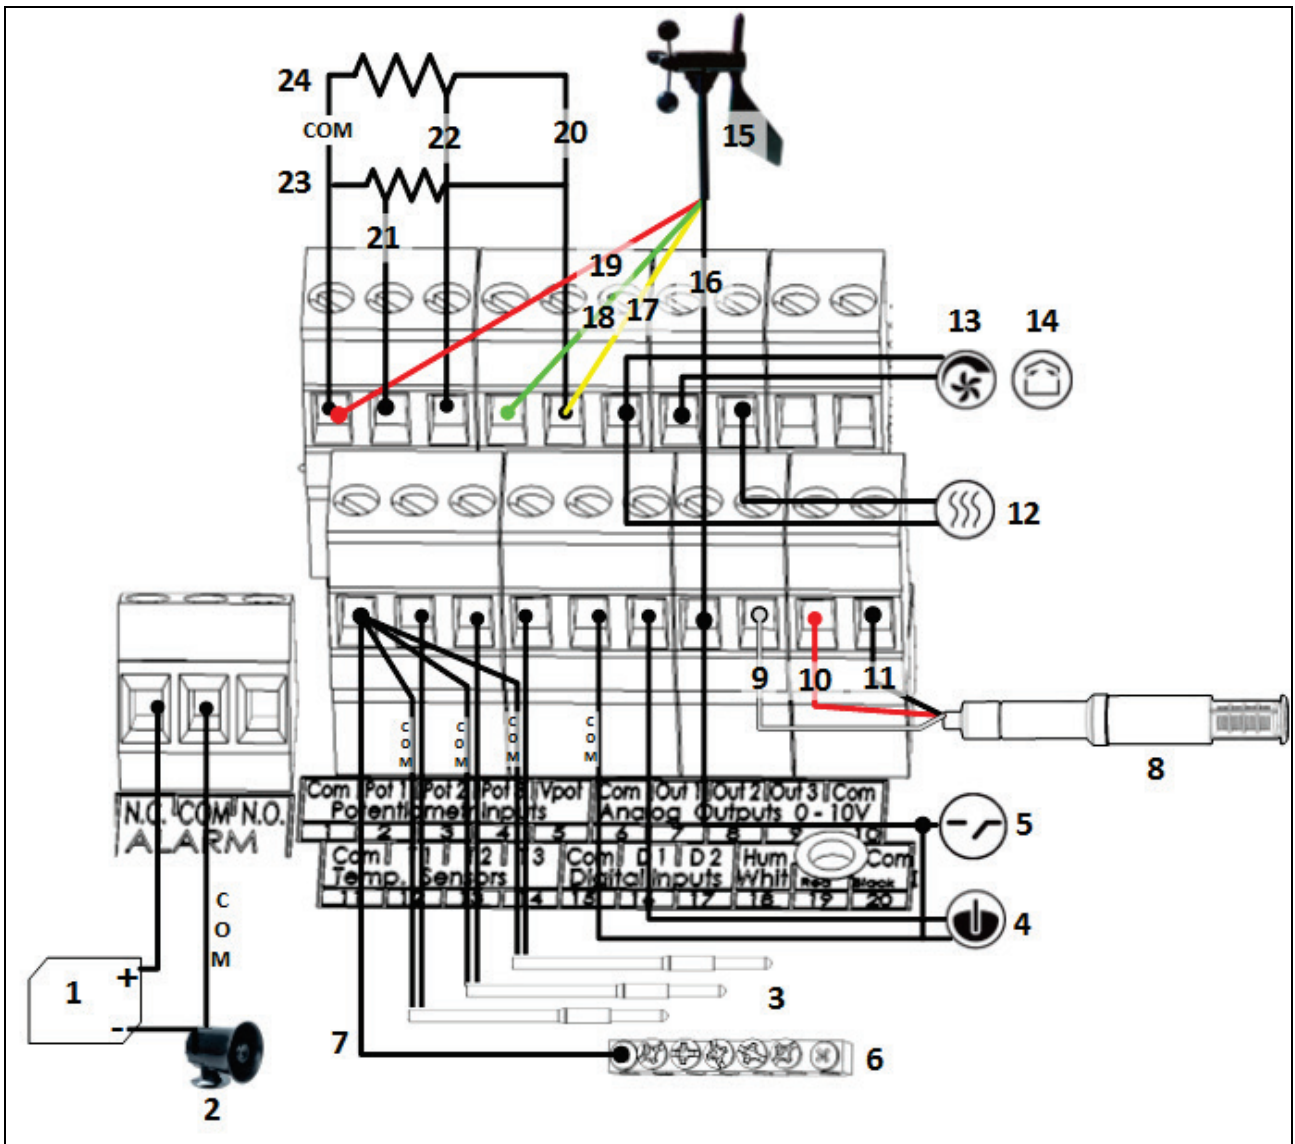

Figure 2: Smart C Wiring Diagram of Low Voltage Section
- Figure 2: Smart C Wiring Diagram of Low Voltage Section
Figure 2 key